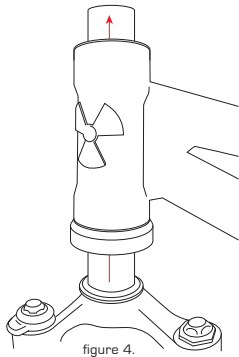

figure 4.
- 11) Insert the steerer tube into the headtube as shown in figure 4;